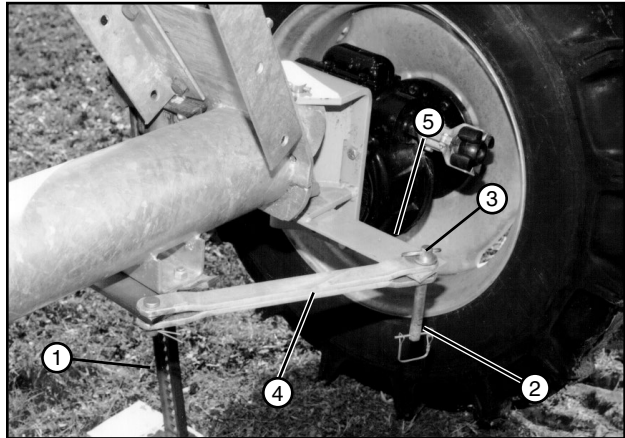

Figure 82-1 1. Jack 2. Lynch Pin 3. Torque Pin 4. Tow Link Bar 5. Steering Arm
1. Use a jack to lift one side of the drive unit until the tire is off of the ground. See figure 82-1.
3. Remove the lynch pin from the torque pin, then remove the torque pin and disconnect the tow link bar from the steering arm. See figure 82-1.